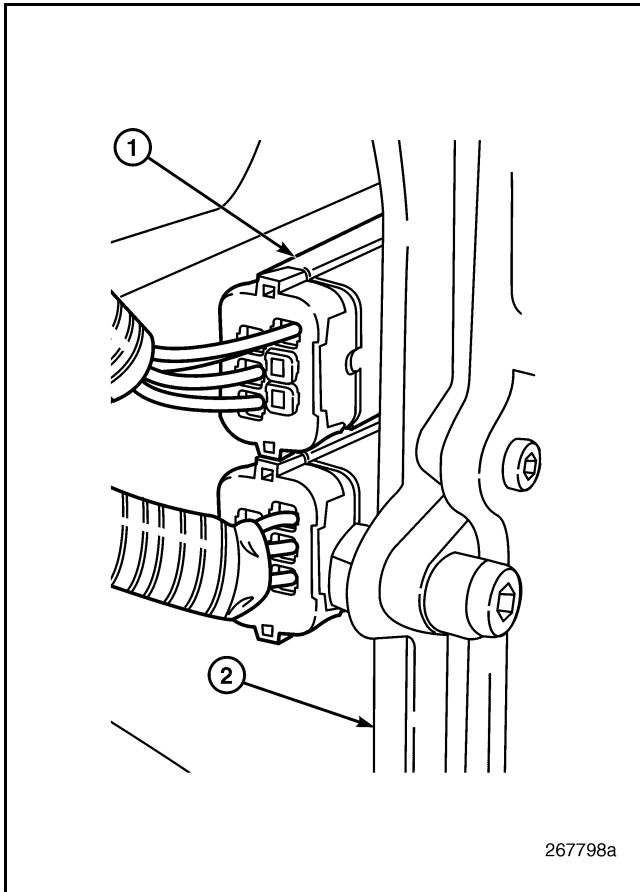

Figure 435 — MASS Flow Module Connections
6. Connect the wiring harness leads to the EGR MASS Flow module (Figure 435).